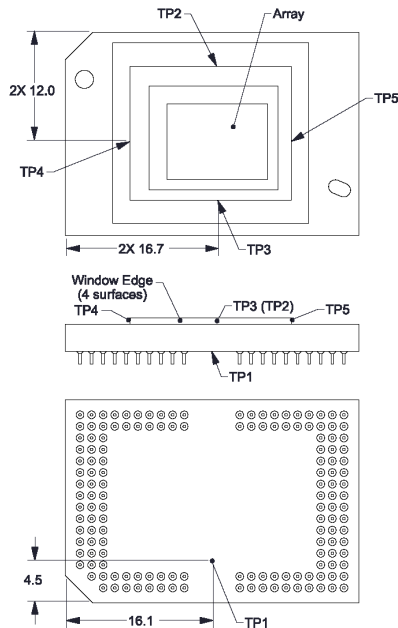

Figure 7-4. Thermal Test Point Location
Achieving optimal DMD performance requires proper management of the maximum DMD case temperature, the maximum temperature of any individual micromirror in the active array, the maximum temperature of the window aperture, and the temperature gradient between the case temperature and the predicted micromirror array temperature (see Figure 7-4).
The DMD is designed to conduct absorbed and dissipated heat to the back of the Series 450 package where it can be removed by an appropriate heat sink. The heat sink and cooling system must be capable of maintaining the package within the specified operational temperatures, refer to Figure 7-4. The total heat load on the DMD is typically driven by the incident light absorbed by the active area; although other contributions include light energy absorbed by the window aperture and electrical power dissipation of the array.
The temperature of the DMD case can be measured directly. For consistency, Thermal Test Point locations TP1 – TP5 are defined, as shown in Figure 7-4.
Micromirror array temperature cannot be measured directly; therefore it must be computed analytically from measurement points (Figure 7-4), the package thermal resistance, the electrical power, and the illumination heat load. The relationship between micromirror array temperature and the case temperature are provided by Equation 1 and Equation 2:
- T_{Ceramic} = Ceramic temperature ($^{\circ}\text{C}$) (TC2 Location Figure 7-4)